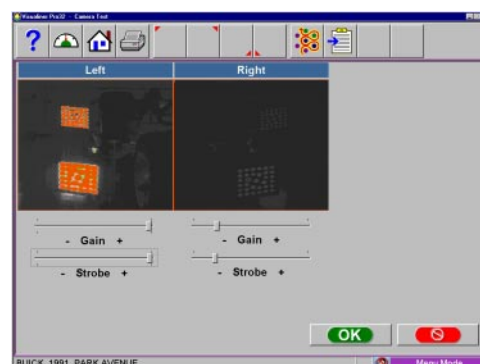

Figure 3-127
7. Beginning with the left camera slide both the “GAIN” and the “STROBE” slider bars all the way to the right. The image of the target for the left side should respond to the change by “BLOOMING”. (Figure 3-127) Repeat the process on the RH side.